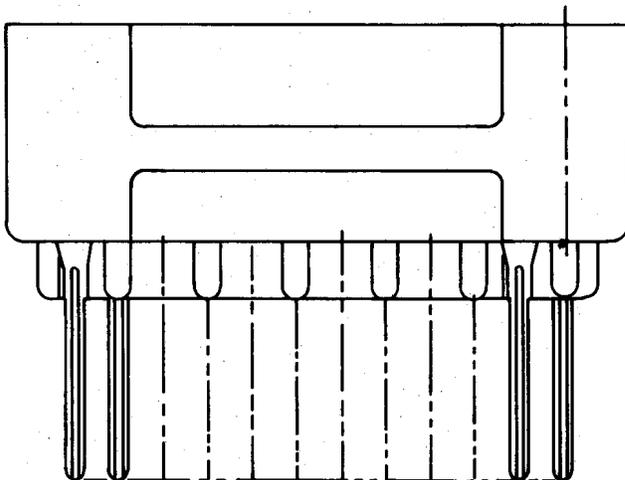

Fig. 5—KS-19437, L1 Connector
2.05 KS-19437, L1: The KS-19437, L1 (Fig. 5) is a polarized, female connector, consisting of a rectangular block of insulating material, equipped with 12 contacts arranged in two rows of six. The wiring end of the contact is arranged for wire-wrapped connections, suitable for two-wraps of 24-gauge wire. This connector will mate with a No. 3A base. The KS-19437, L1 connector is used in 2-inch mounting plates in the No. 5 Crossbar Systems.